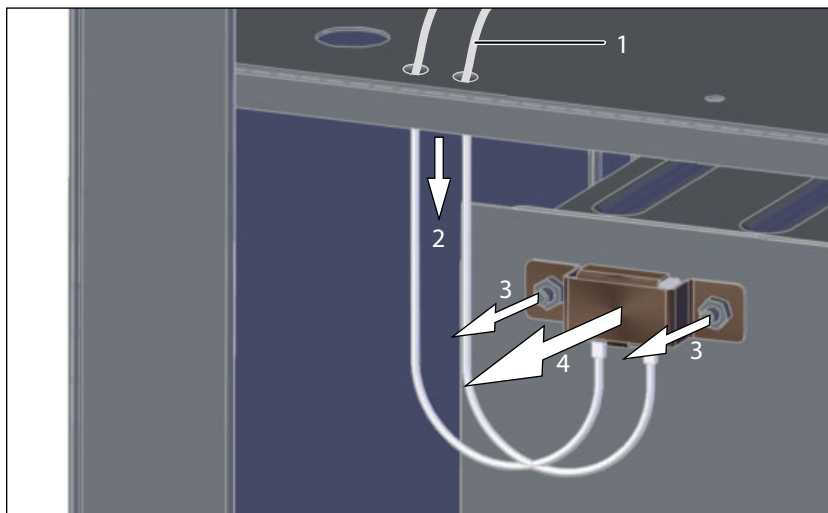

Fig. 15 Replacing the temperature limiter
3. Remove insulation material in the vicinity of the temperature limiter (top left of the rear panel, see Fig. 15).
4. Pull off connection leads (1) of the temperature limiter from the mainboard (slots S25 and S26) in the control unit.
5. Pull out connection leads downwards through the raised floor (2).
6. Undo the mounting bolts (3) and remove the retaining bracket of the temperature limiter (4); remove temperature limiter.